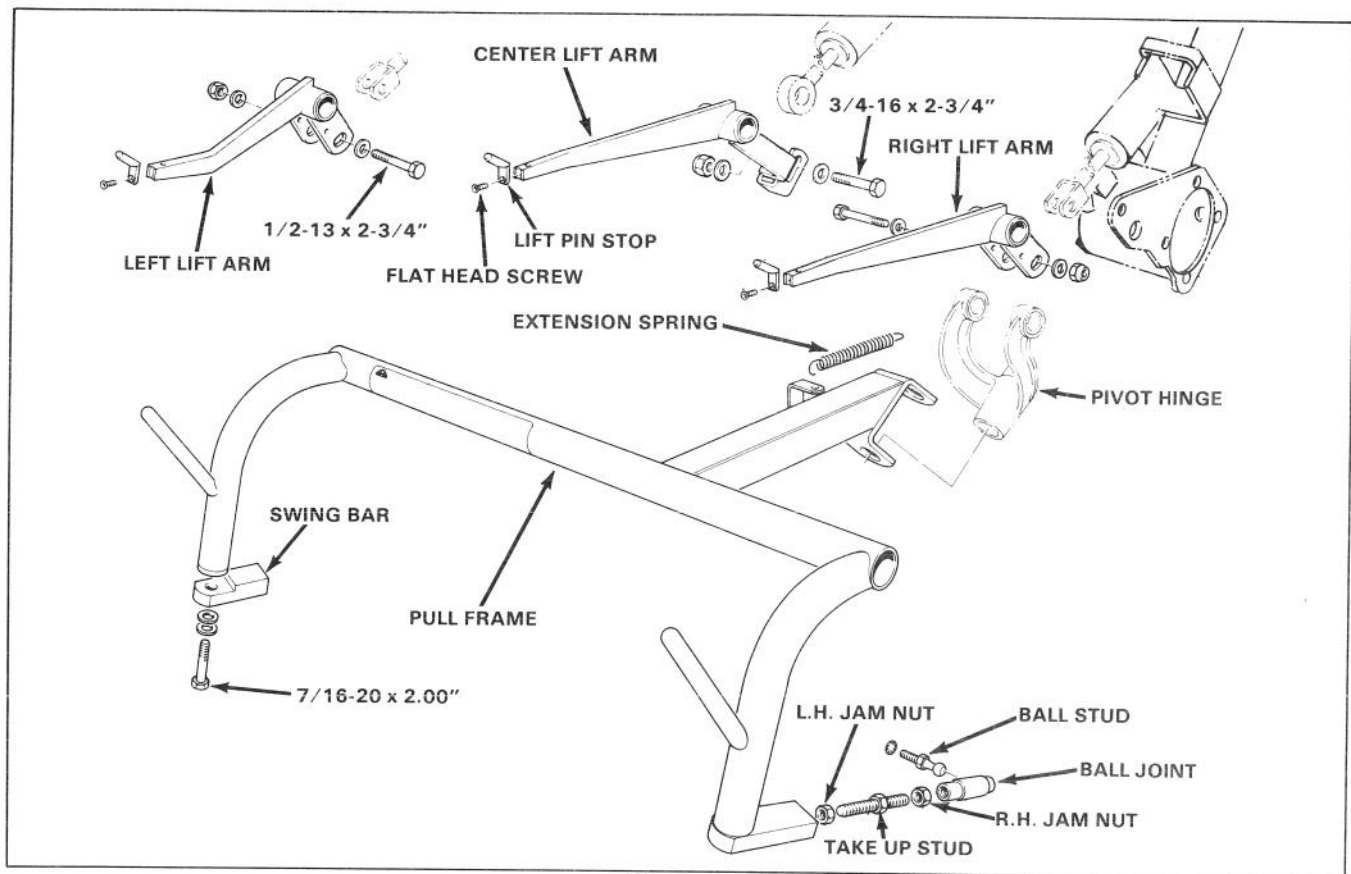

Figure 2
ASSEMBLY (Fig. 2)
2. Install lift arm and pivot hinge to traction unit frame with hinge pin and thrust washers previously removed. Use thrust washers only as needed to remove any play in assembled parts. See Fig. 2 for lift arm identification.
4. Secure hydraulic cylinders to left and right lift arms with 1/2-13 x 2-3/4" lg. capscrews, (2) 13/32" I.D. washers and locknuts. Secure center cylinder to lift arm with 3/4-16 x 2-3/4" lg. capscrew, (2) 13/16" I.D. washers and locknut.
5. Loosely install swing bar to right leg of each pull frame with a 7/16-20 x 2" lg. capscrew and (2) 15/32" I.D. washers.